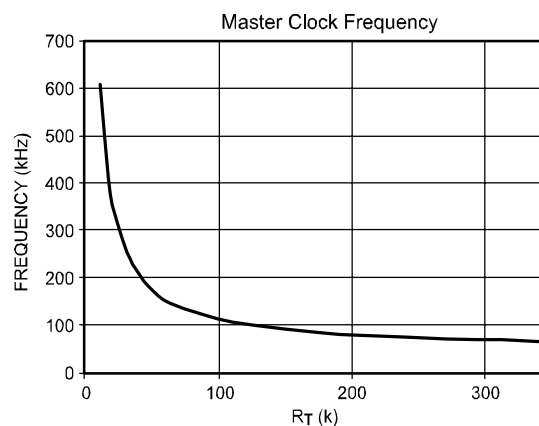

Figure 18. R_T vs. Frequency
The clock frequency on the oscillator is set using an external resistor, connected between R(T) pin and ground. The frequency follows the graph, as shown in Figure 18. The minimum clock frequency is 50kHz, which is when R(T) pin is left open. Select the value of R(T) as shown in the equation below. This equation is valid for all $F_{OSC} > 50\text{kHz}$: